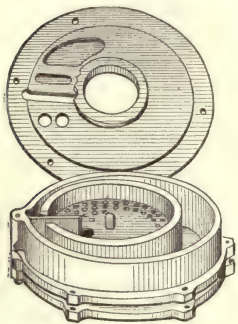
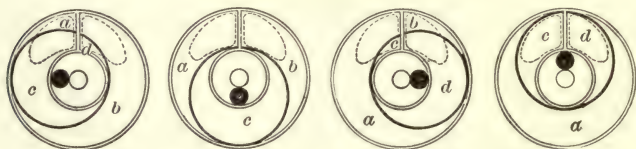

FIG. 70. — Water meter.
FIG. 71. — Diagrams to show operation of water meter.
77. Water meter. It is common now to measure the quantity of water which is used by each house. This is done by an instrument called a water meter. There are several types of these meters; one of the simplest is shown in figure 70, and its action is shown in the four diagrams in figure 71. The water enters through the left-hand kidney-shaped opening, shown by dotted lines, and leaves through the similar opening at the right. The moving part, shown by the heavy line, has a hub (the black circle) that travels around in the little circular track provided for it, the moving part meanwhile oscillating to and fro without turning completely around. This makes the various annular spaces enlarge as long as they are in connection with the inlet (watch,